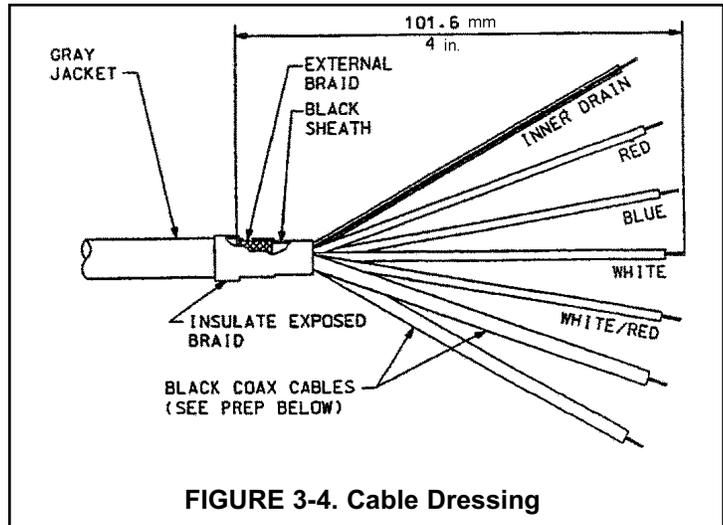

FIGURE 3-4. Cable Dressing
All interconnecting sensor cable ends must be properly dressed, as shown in Figure 3-4, to prevent the individual sensor and shield wires from shorting. All shields must be kept electrically separate all the way back to the terminals on the Model 54e pH/ORP. Check that there is no continuity between the shield wires and any other sensor conductors or shields prior to connecting the sensor wiring to the terminals on the Model 54e pH/ORP. FAILING TO FOLLOW THESE INSTRUCTIONS WILL RESULT IN CONTROLLER MALFUNCTION.
1. Use only the cable specified. Figure 3-4 shows the 10 conductor cable with 3 shields (9200273).